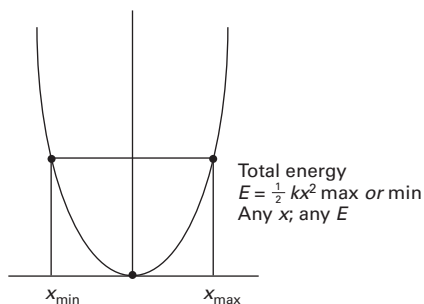

FIGURE 32.2 An unrestricted position for x gives any E .
This ball-and-spring model will vibrate with a total energy (E) equal to the potential energy at the stretched or compressed position (Fig. 32.2):